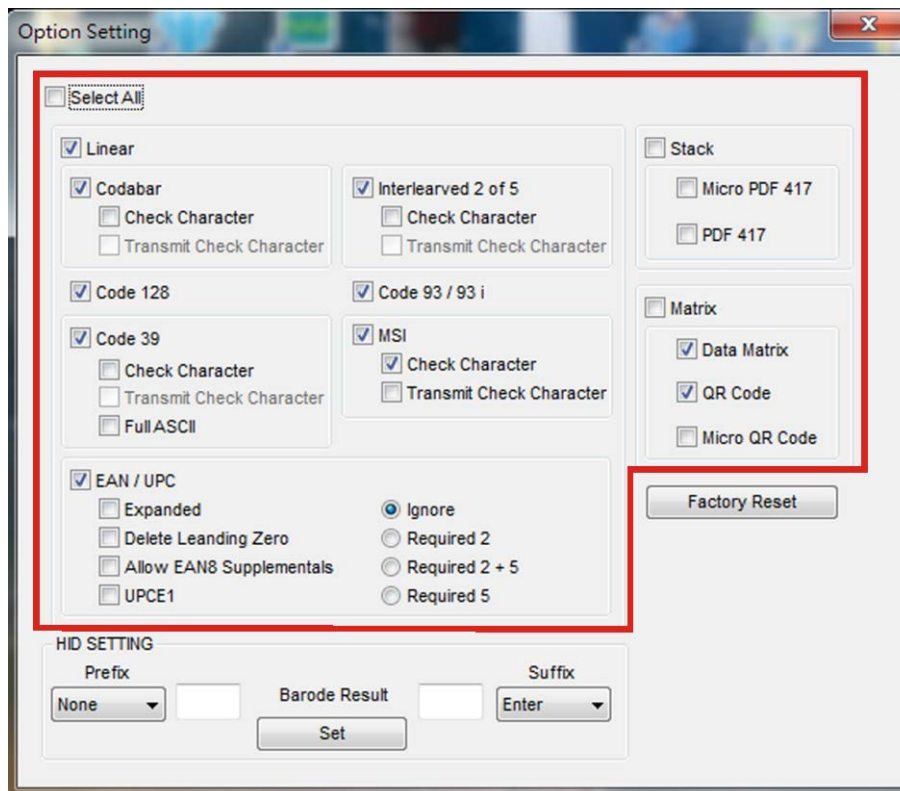

Figure 3-9: Option Setting Menu – Symbology Setting
Step 3: For configuring the symbology settings, the user can check the **Select All** box to enable support of all barcode types or set up each barcode support separately (**Figure 3-9**).